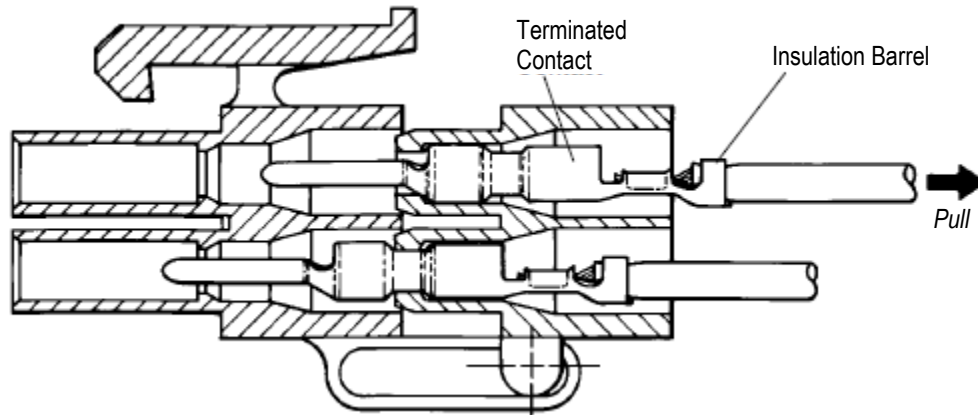

Figure 10
2. Grasp the selected wire by the insulation barrel and pull using a twisting motion, until terminated contact is free from housing as shown in Figure 10